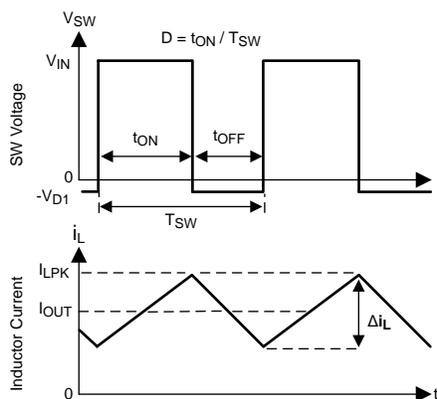

Figure 33. SW Node and Inductor Current Waveforms in Continuous Conduction Mode (CCM)
The following operating description of the LM46000 will refer to the *Functional Block Diagram* and to the waveforms in *Figure 33*. The LM46000 is a step-down Buck regulator with both high-side (HS) switch and low-side (LS) switch (synchronous rectifier) integrated. The LM46000 supplies a regulated output voltage by turning on the HS and LS NMOS switches with controlled ON time. During the HS switch ON time, the SW pin voltage V_{SW} swings up to approximately V_{IN} , and the inductor current i_L increases with a linear slope $(V_{IN} - V_{OUT}) / L$. When the HS switch is turned off by the control logic, the LS switch is turned on after a anti-shoot-through dead time. Inductor current discharges through the LS switch with a slope of $-V_{OUT} / L$. The control parameter of Buck converters are defined as Duty Cycle $D = t_{ON} / T_{SW}$, where t_{ON} is the HS switch ON time and T_{SW} is the switching period. The regulator control loop maintains a constant output voltage by adjusting the duty cycle D . In an ideal Buck converter, where losses are ignored, D is proportional to the output voltage and inversely proportional to the input voltage: $D = V_{OUT} / V_{IN}$.